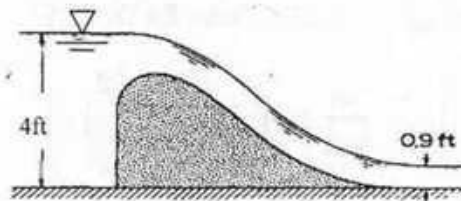

Figure 10
(b) Flow occurs over a spillway of constant section as shown in Figure 10. Determine the horizontal force on the spillway per foot of spillway width. (8)